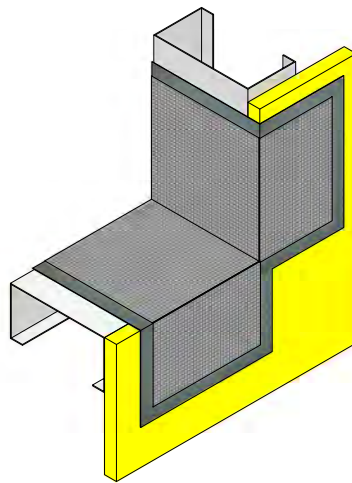

Figure 6
2. Cut SHEATHING FABRIC to desired size. Place the SHEATHING FABRIC into the wet SENERSHIELD-R or SENERSHIELD-VB. (See Figure 6)